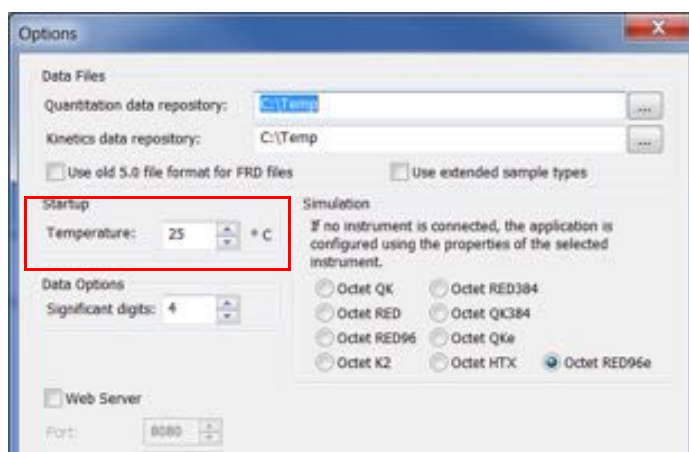

Figure 3-21: Setting the Default Startup Temperature in the Options Dialog Box
2. In the **Options** dialog box (Figure 3-21), select a new temperature in the **Startup** box and click **OK**. The plate temperature will then adjust to the new value, and this setting will be used as the new default startup temperature whenever the software is launched.